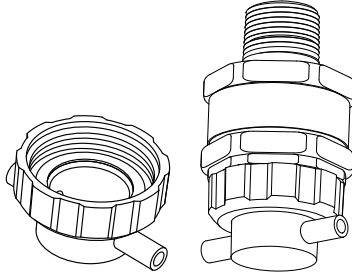

Figure 5. Flow Adaptor / MPD with Flow Adaptor
- c. Sample/Calibration Gas Flow Adaptor (Figure 5).